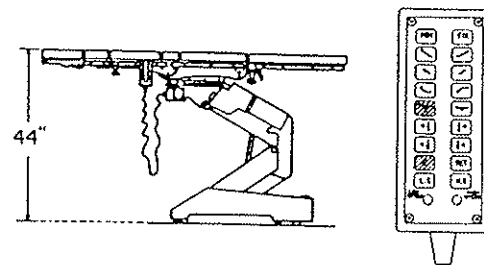
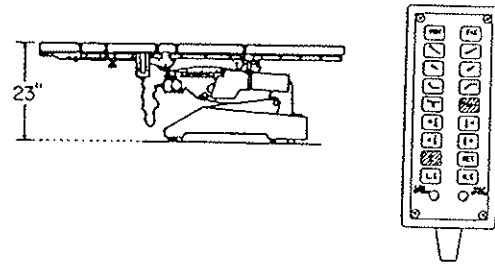

Figure 2-13. Elevation - Up
Figure 2-14. Elevation - Down
f. Elevation. To raise table top, push both the ELEVATION-UP and ENERGIZE buttons (figure 2-13.). The table will raise to a maximum height of 44". To lower the table top, push both the ELEVATION-DOWN and ENERGIZE buttons (figure 2-14.). The table top will go down to a minimum height of 23".